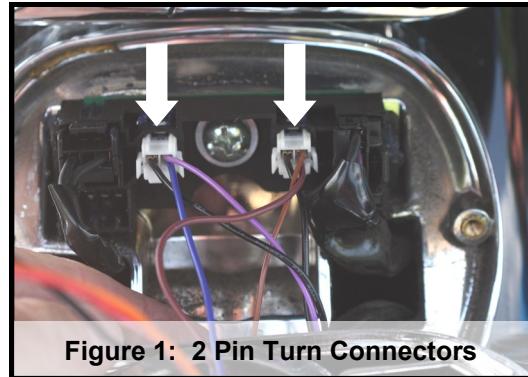

Figure 1: 2 Pin Turn Connectors
5. Locate the left and right 2 pin turn signal connectors. Press down release tab on the top of connector to unplug both. (See Figure 1 on Page 2)
6. Plug the 2 pin turn signal plugs from new taillight into the same connectors, brown is right turn, purple is left turn. Make sure they lock in place. (See figure 1)